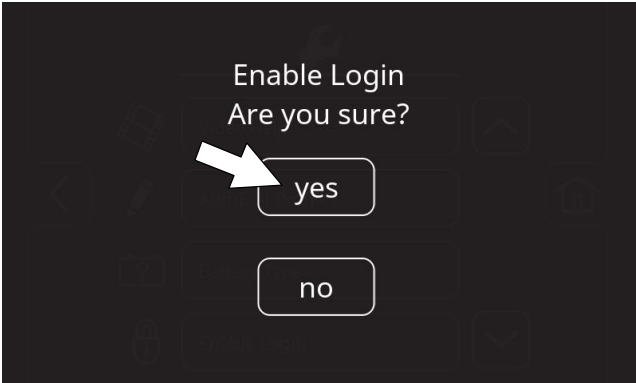

FIG. 179
- 5. Press the yes button to enable login (Figure 179).